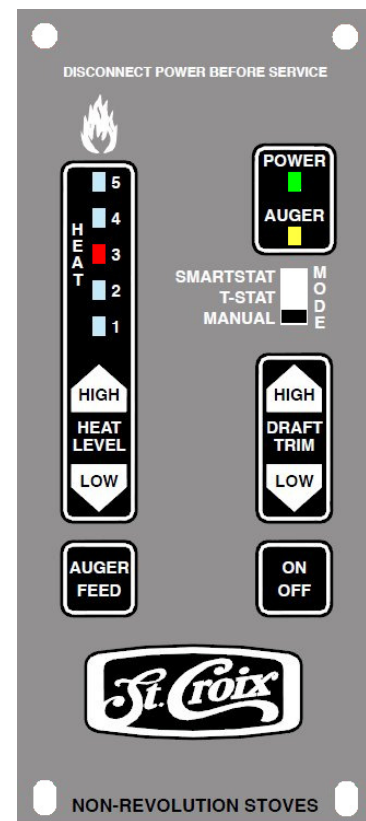

Figure 18
A closer look at the Control Board to the right in figure 18 will explain how the board works.
2. Push the On/Off button on the control board. (*See figure 18 on page 26*)